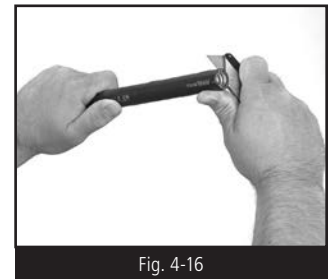

Fig. 4-16
STEP 2 CUT & STRIP JACKET LAYERS (FIG. 4-16)